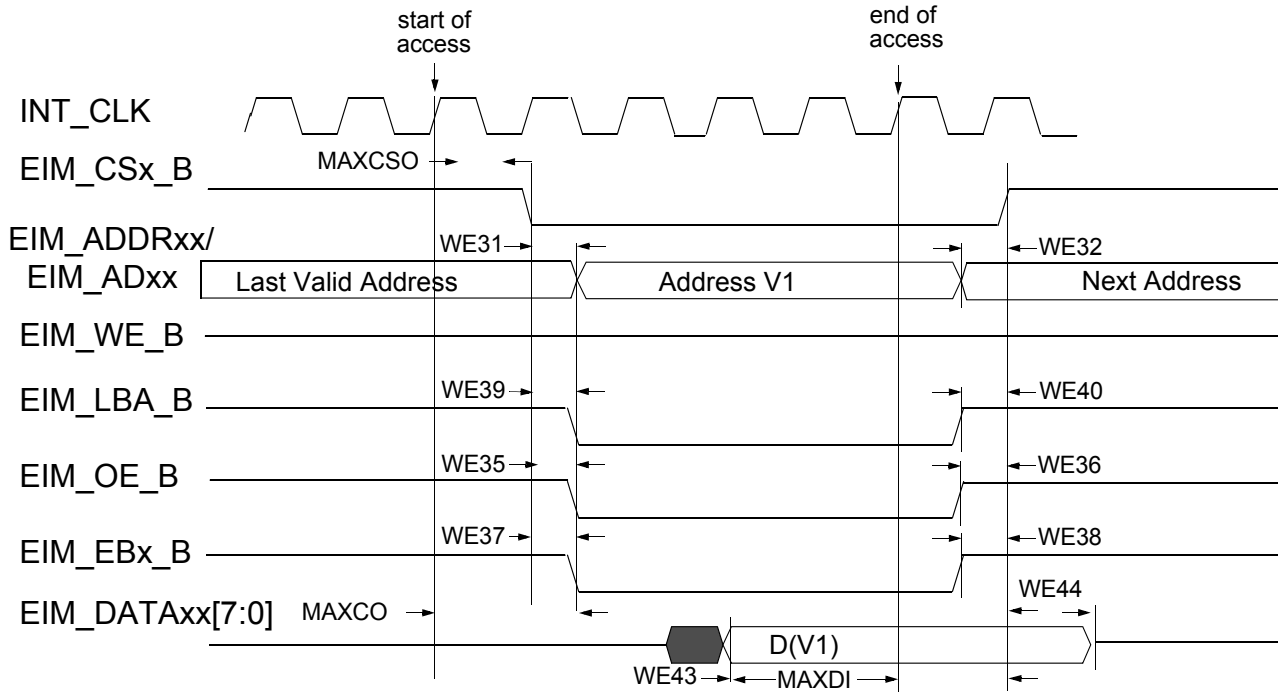
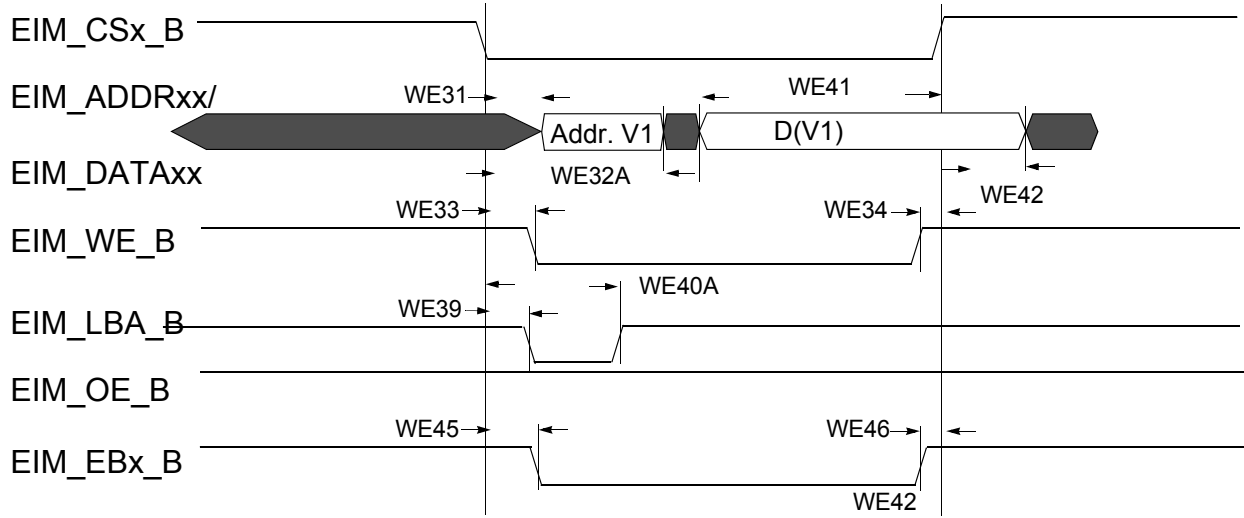
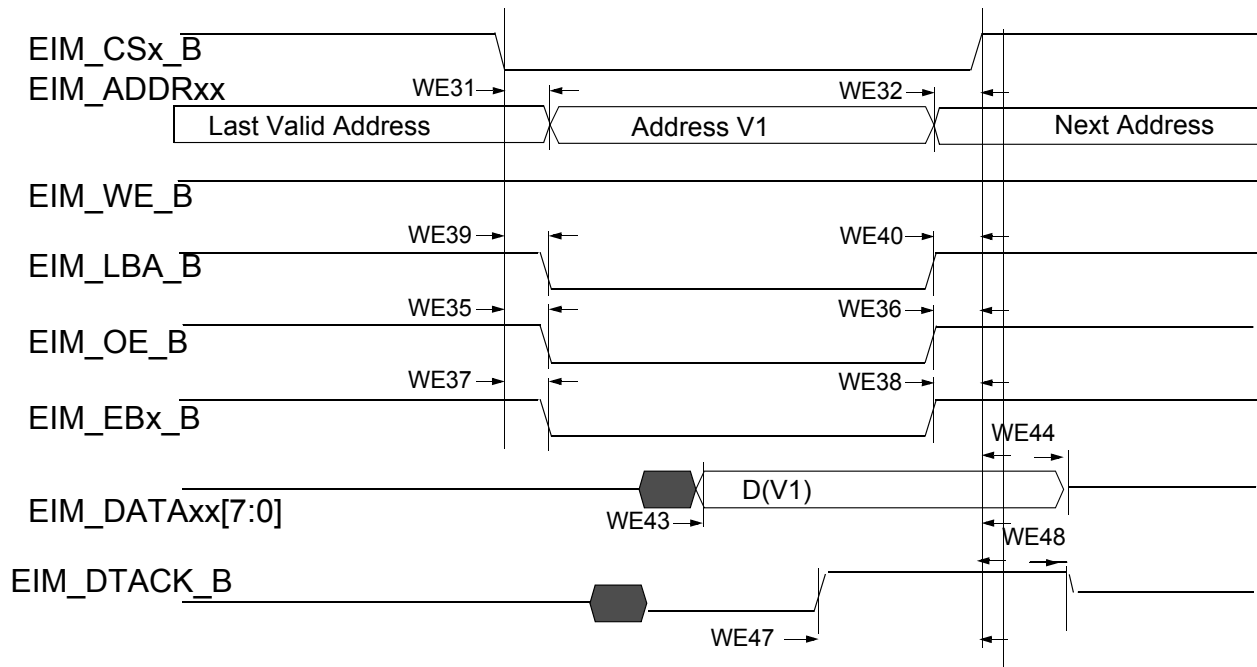

Figure 16. Asynchronous Memory Read Access (RWSC = 5)
Figure 19. Asynchronous A/D Muxed Write Access
Figure 20. DTACK Mode Read Access (DAP=0)
Figure 16 through Figure 20, and Table 46 help you determine timing parameters relative to the chip select (CS) state for asynchronous and DTACK EIM accesses with corresponding EIM bit fields and the timing parameters mentioned above.
Asynchronous read & write access length in cycles may vary from what is shown in Figure 16 through Figure 19 as RWSC, OEN and CSN is configured differently. See the *i.MX 6SoloX Applications Processor Reference Manual* (IMX6SXR) for the EIM programming model.